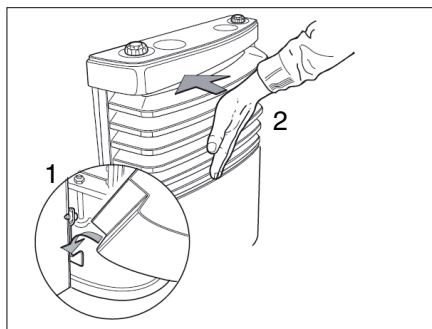

Fig. 106 Mounting the heater cover
- Mount the heater cover. To do so, insert the cover into the lower bracket (Fig. 106,1).
- Swivel the cover in until the catch levers engage audibly (Fig. 106,2).